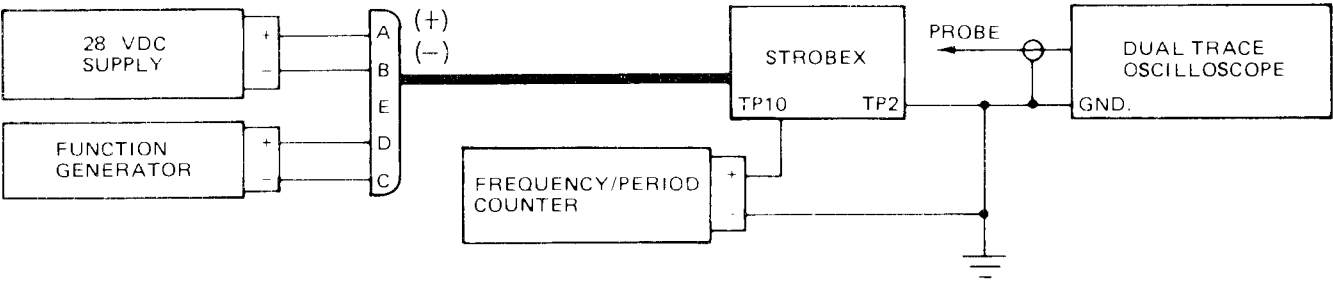
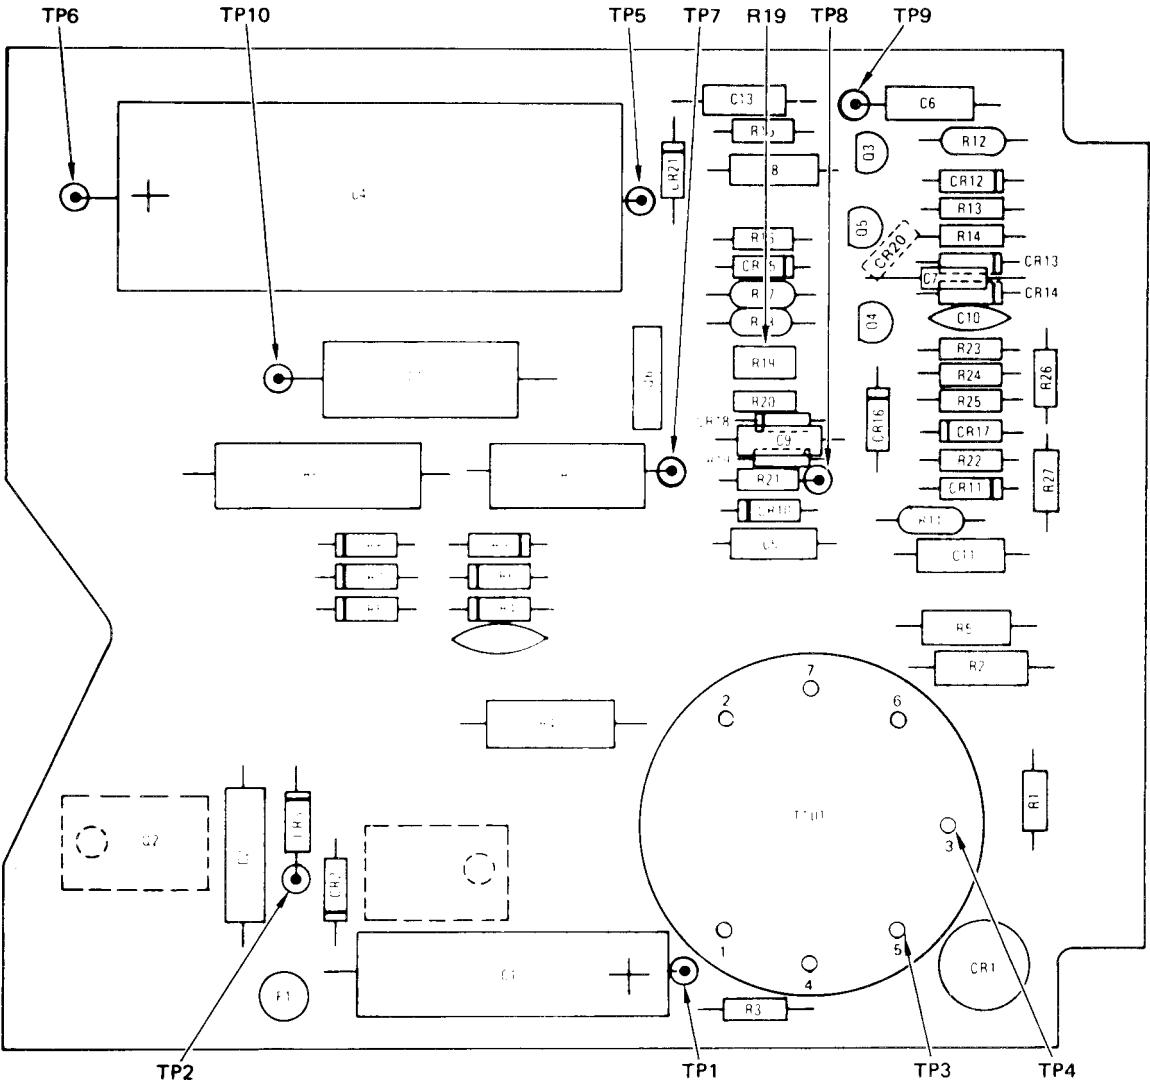

Figure 4-10. Strobex Test Setup
Figure 4-11. Strobex Test Points and Adjustments
b. Perform Strobex resistance checks in accordance with Table 4-7. Figure 4-11 shows the location of Strobex test points.
(1) Connect +28 vdc power supply only to Strobex as shown in Figure 4-10.
(2) Set MODE switch to A and RPM dial to 500.
(3) Use VOM to measure voltage at test points in Table 4-8 (Trigger pulled).
(4) Connect test equipment as shown in Figure 4-10.
(5) Connect oscilloscope to function generator and set up function generator for a 40 Hz square wave output of 800 mV peak-to-peak.
(6) Squeeze and hold trigger on Strobex. Verify that Strobex flashes steadily and that flash rate is 40 Hz on frequency/period counter.
(7) Reduce function generator output until Strobex flashes erratically. Verify that function generator output is 600 mV peak-to-peak or less on oscilloscope. Release trigger.
- (1) Disconnect frequency/period counter and function generator,
- (2) Connect oscilloscope to TP10 (Fig. 4-11). Set up oscilloscope to sync on EX 60 Hz source and to measure a 400-volt signal with a 2 ms/division time base.
- (3) Set RPM dial MODE switch to positions indicated in Table 4-9. At each setting, adjust RPM dial to sync oscilloscope. Verify that RPM dial indicates value listed in Table 4-9 after syncing.
- (1) Connect Strobex and test equipment as shown in Figure 4-10.
- (2) Connect oscilloscope to function generator and set up oscilloscope to trigger from positive edge of function generator output.
(3) Set function generator output to 10 Hz at 1 volt peak-to-peak.
(4) Set MODE switch to B and RPM dial to 395.
(5) Disconnect oscilloscope from function generator and connect to TP-9 (Fig. 4-11).
(1) Connect Strobex and test equipment as shown in figure 4-10.
(2) Connect oscilloscope to function generator and set up oscilloscope to trigger from positive edge of function generator output.
(3) Set MODE switch to D and RPM dial to 100.
(4) Disconnect oscilloscope from function generator and connect to TP10 (Fig. 4-11). Set oscilloscope to internal trigger, negative slope.